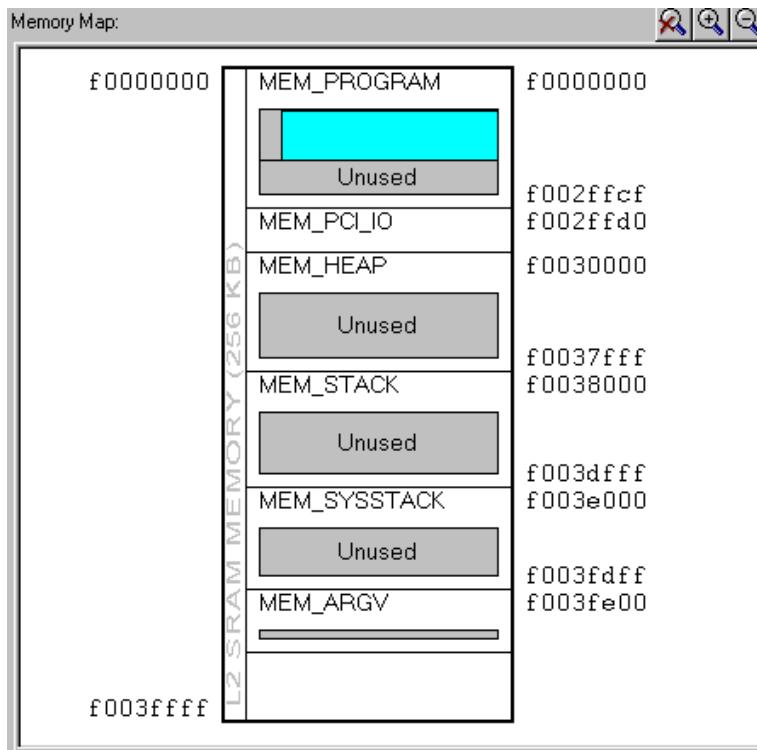

Figure 4-24. Memory Map Pane in Post-Link View
- To enable post-link view from the Memory Map pane, right-click and choose View and Link Results (Post-Link). Figure 4-24 on page 4-32 illustrates a memory map after linking.